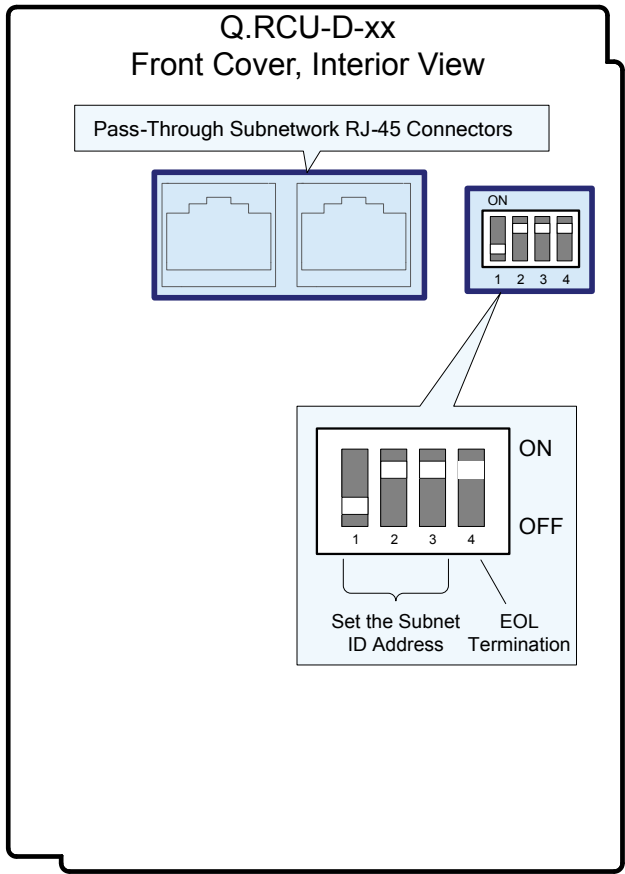

Figure 6: Dipswitch Locations
14. If using digital inputs, connect the digital wires to the digital input cable as specified in section **About an Q.RCU-D-xx Sensor equipped with a digital input cable**, and the digital input cable connector into the sensor as shown on **Figure 6: Connectors and Dipswitch Locations**.